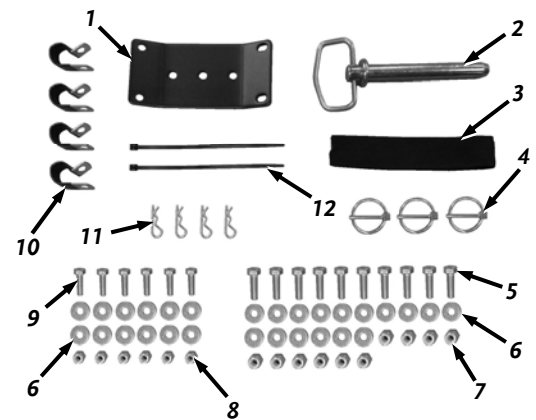

Figure 2
1. Open the Parts Box and lay them out on a clean flat area (**Figure 2**).
Parts Supplied in Parts Box (**Figure 2**):